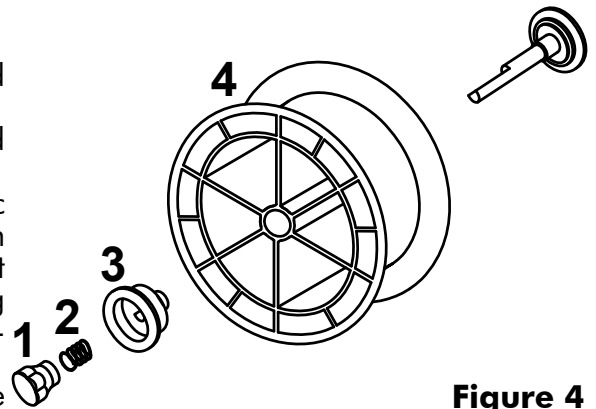
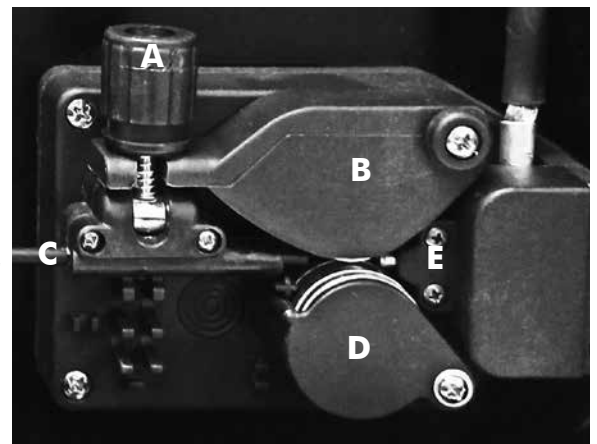

Figure 4
Figure 5
- Plug the torch hose into the socket (9) on the front of the welder having care to not damage the contacts and secure by hand screwing in the threaded connection.
- Loosen the nut (1) of the spool holder (brakedrum) and remove the spring (2) and the external ring (3). (Fig.4)
- Remove the plastic protection from the spool (4) and place it on the spool holder.
- Mount the external ring (3), the spring (2) and the plastic lock nut (1) again. These parts form the braking system of the wire spool speed. NOTE: Do not tighten the nut too much, excessive pressure strains the wire feeding motor, while too little pressure does not allow the immediate stop of the wire spool at the end of the welding.
- Loosen and lower the plastic knob (A) (Fig.5). Open the pressure arm (B) of the feeder. Extract the wire from the torch liner.
- When the wire is disconnected, grasp it with pliers so that it cannot exit from the spool. If necessary, straighten it before inserting it in the wire input guide (C). Insert the wire on the lower roll (D) and in the torch liner.